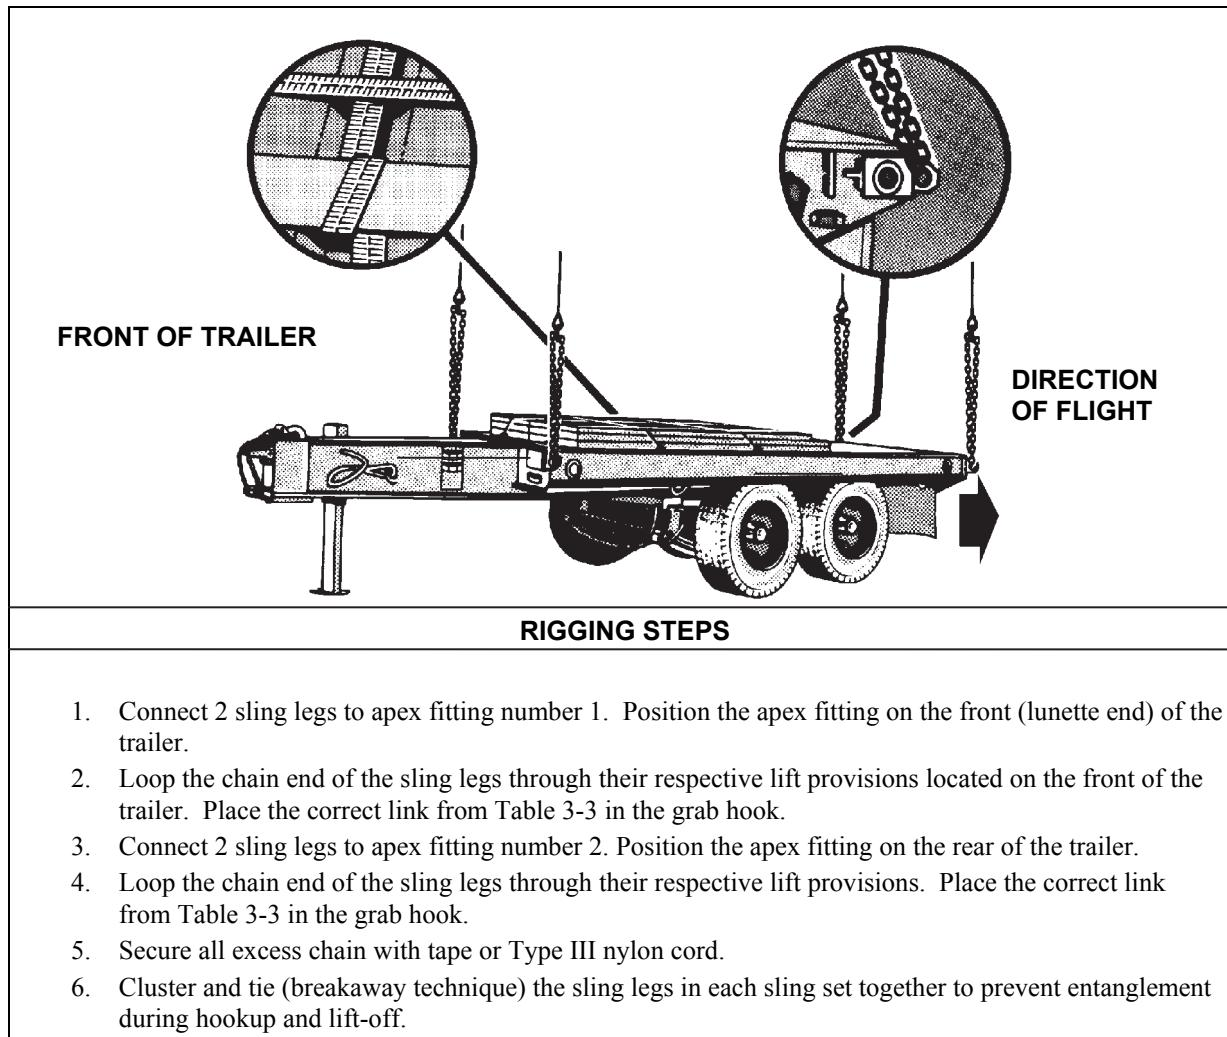

Figure 3-3. M989 Heavy-Expanded Mobility Ammunition Trailer
- **Rigging.** Rig the load according to the steps in Figure 3-3.